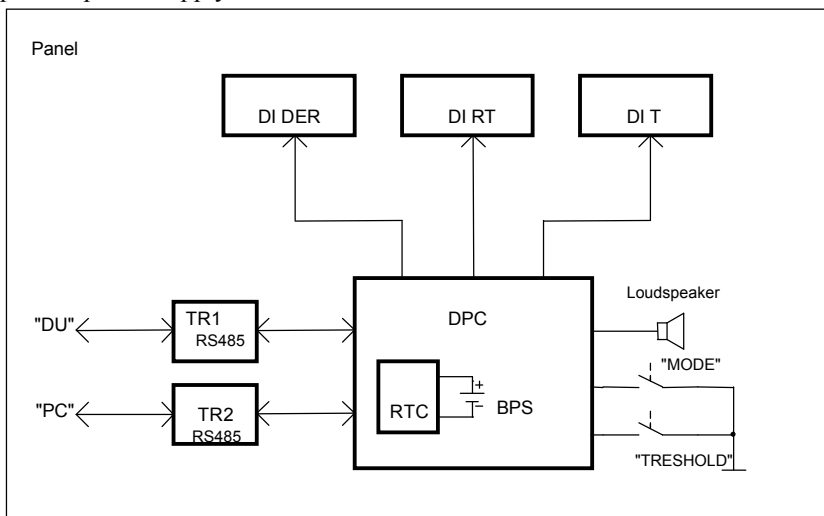

Figure 4 – Structure chart of the panel
1.4.3.1 The structure chart of the panel is illustrated in Figure 4. The panel consists of the digital processing circuit (DPC), the digital indicator of measured DER with LED indicators of measurement unit (DI DER), the real time digital indicator (RT DI), the measured temperature digital indicator (T DI), the loudspeaker, the THRESHOLD and MODE buttons, two receivers-transmitters RT1 RS485 and RT2 RS485 of the RS485 interface. The DPC is developed on the basis of the 16-bit microcontroller of the MSP430 series. The DPC also includes the real time clock (RTC) with the backup power supply (BPS) that maintains the RTC operation when the main power supply is absent.